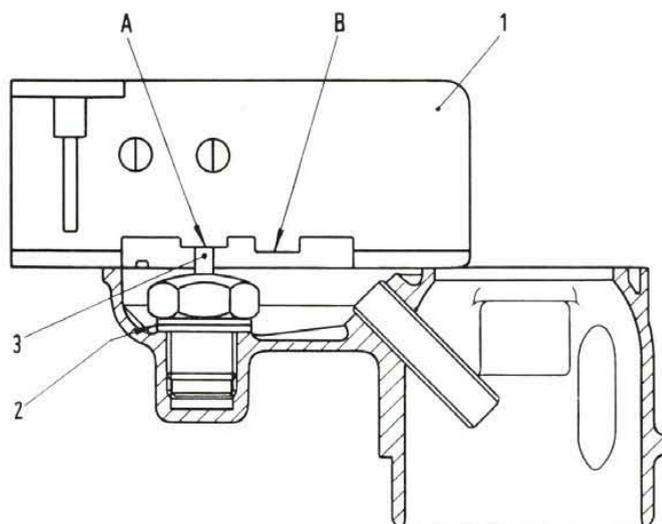

Fig. 151 - Solex carburetor: checking float level.
- fit gauge A. 95126 on needle seat with dowel A as shown in fig. 151; in this position needle should allow the gauge to slide freely;
— set dowel **B** (fig. 151) at needle: the latter should prevent the gauge from sliding (dowel striking against needle).
In case the needle must be repositioned do so by fitting thicker or thinner shims (2, fig. 151).